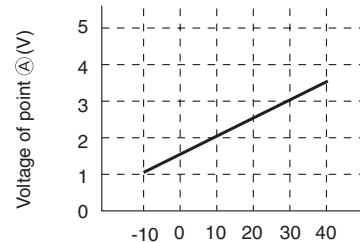

Fig. 9-2
- (1) Preheating
- (2) Low-temperature defrosts at cooling and dehumidification operation time.
- (3) Not working of reversing valve or detection of opening of heat exchanger thermistor is controlled.
According to heat exchanger temperature, the voltage of point ① becomes as it is shown in Fig. 9-2.